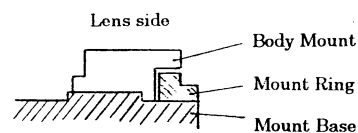

Fig.43
- * Install the Mount Ring (1AM79000) in the orientation as shown in Fig. 43.